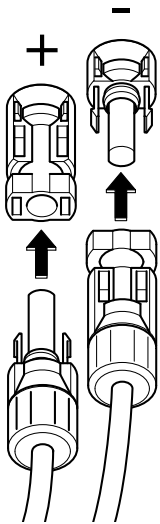

Fig. 37: Connect the PV string
5. Plug the sockets and plugs of the DC cables onto the inverter.  **Fig. 37** Keep the plug seals from the plug connectors.